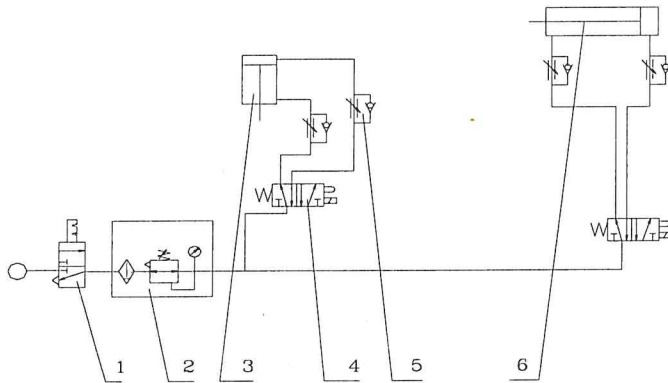

Figure 11
1. 1-color SPC-814E (see figure 11)
Hold ink cup (c) in one hand and turndown the part which has been taken out to make ink cup upside down and steel plate shim face up. Then gently slide ink cup away from the surface of thin steel plate slowly, extra attention should be applied in this procedure to avoid any damage to the edge of porcelain ring of ink cup. Refer to Figure 11.